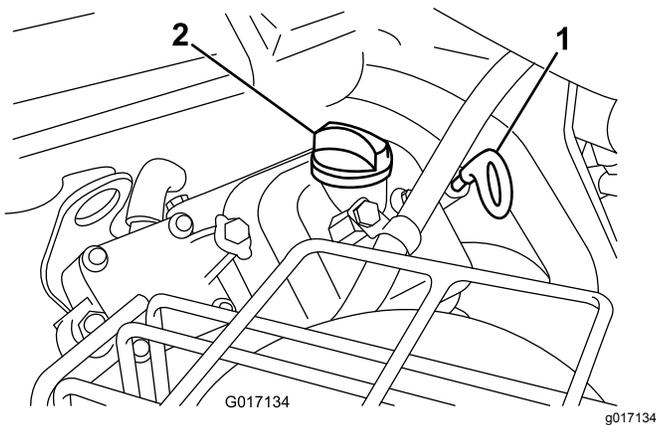

Figure 36
3. Insert the dipstick into the dipstick tube and thread it into the tube (Figure 36).